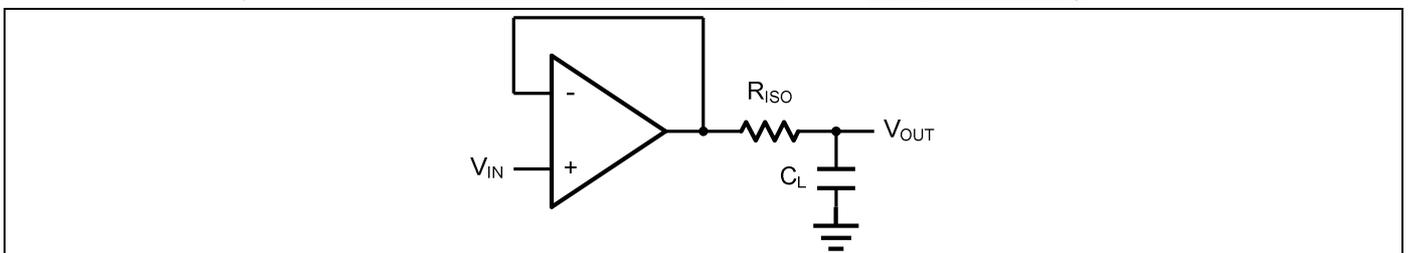
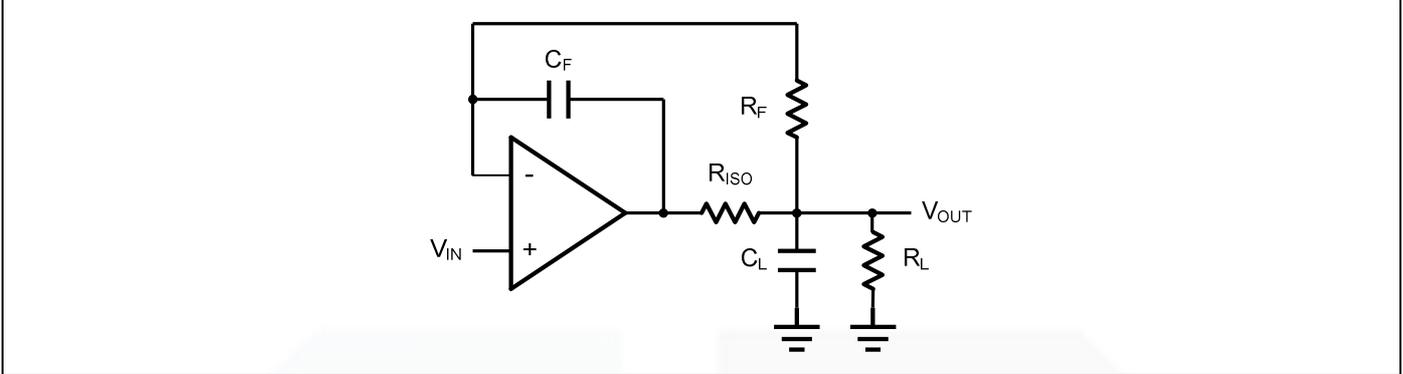

Figure 2 Indirectly Driving a Capacitive Load Using Isolation Resistor
Figure 3. Indirectly Driving a Capacitive Load with DC Accuracy
The HGV6001 family is optimized for bandwidth and speed, not for driving capacitive loads. Output capacitance will create a pole in the amplifier's feedback path, leading to excessive peaking and potential oscillation. If dealing with load capacitance is a requirement of the application, the two strategies to consider are (1) using a small resistor in series with the amplifier's output and the load capacitance and (2) reducing the bandwidth of the amplifier's feedback loop by increasing the overall noise gain. Figure 2 shows a unity gain follower using the series resistor strategy. The resistor isolates the output from the capacitance and, more importantly, creates a zero in the feedback path that compensates for the pole created by the output capacitance.
The circuit in Figure 3 is an improvement to the one in Figure 2. R_F provides the DC accuracy by feed-forward the V_{IN} to R_L . C_F